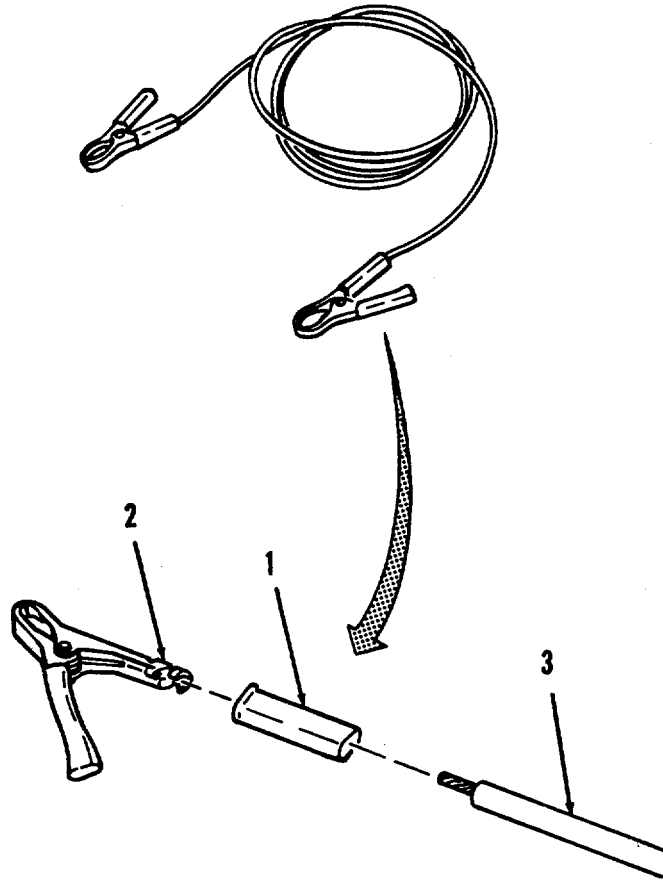

Figure 4-3. Ground Cable Assembly Repair.
a. Disassembly. (Refer to Figure 4-3).
- (1) Pull protective sleeve (1) down clamp handle (2) until sleeve is away from clamp handle.
- (2) Remove wire (3) from clamp (2).
- (3) Repeat for other clamp if required.